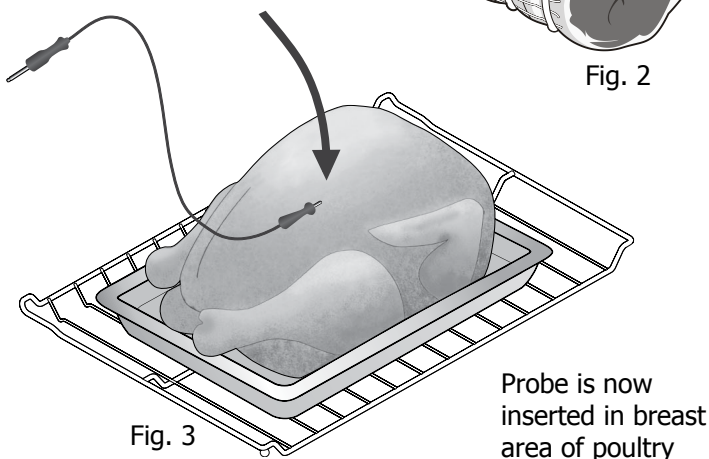

Fig. 3
- For whole poultry or turkey, insert the probe temperature sensor into the thickest part of the breast without touching bone (See Fig. 3).